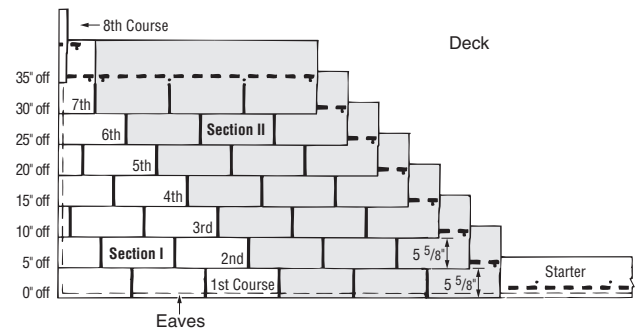

Figure 10-15: Eight-Course, Five-Inch, Stepped-Off Diagonal Method.
3. Continue with full-length starter-course shingles along the eaves. (*Figure 10-15*).
1. Begin the second course by cutting 5" off the left end of a shingle and applying the 34³/₈" piece over the first-course shingle, flush with the left edge of the first-course shingle, and exposing the first course 5⁵/₈" (*Figure 10-15*).
- Install "Section II" as shown in *Figure 10-15* using full shingles against the eighth courses in "Section I." This must be done before continuing with course nine. These "Section II" shingles are to be butted-up against the "Section I" shingles.